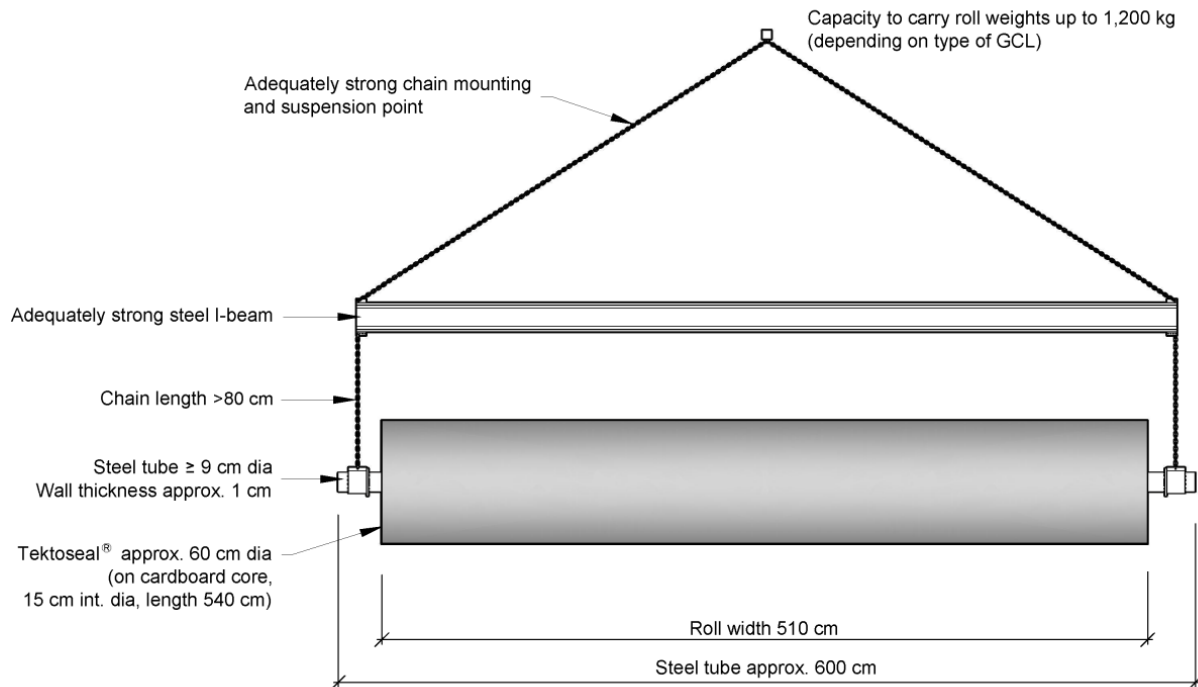

Fig. 1: Spreader bar assembly
- A site vehicle equipped with a spreader bar assembly or suitably strong core pole, which is pushed through the roll core (Fig. 1)